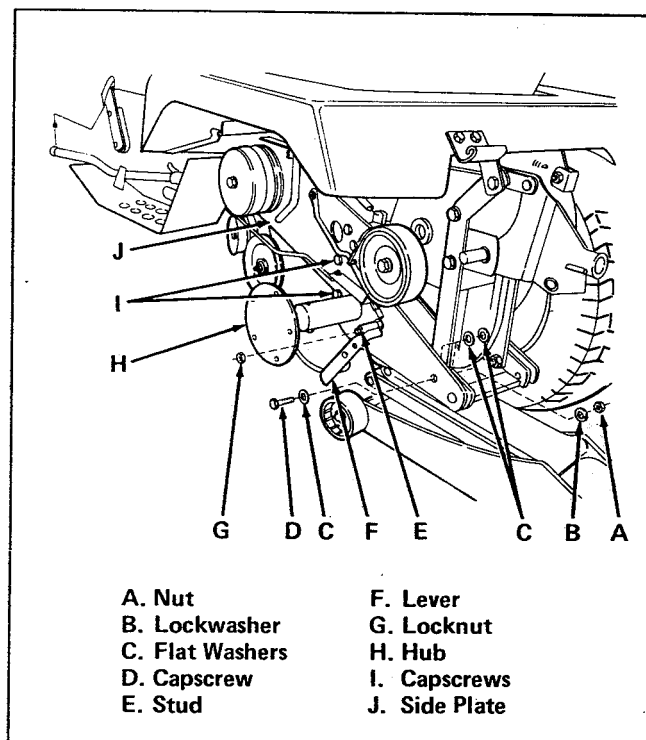

Figure 20. Secure New Pull Bar
9. Place lockwashers removed in step 6 over two capscrews 7/16 x 1-1/4 inch (11 x 32 mm) provided with rotary tiller. Then install these capscrews fingertight (item I, figure 20) through holes in pull bar and side plate (item J) and into threaded holes of transmission.